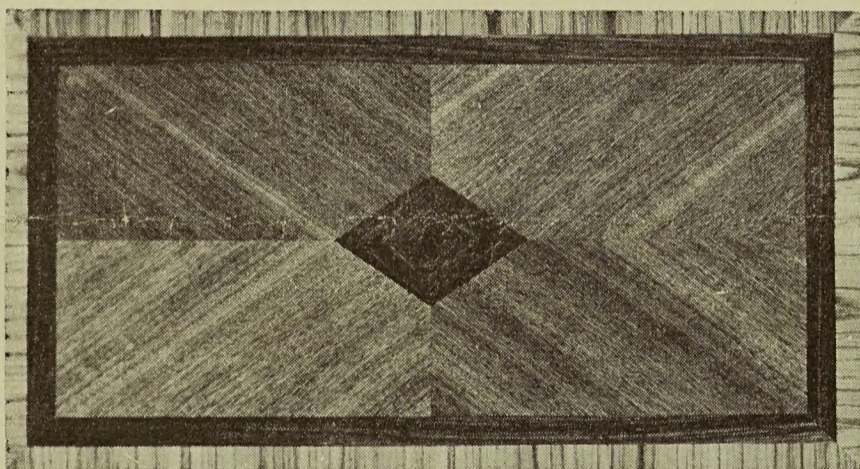

Fig. 13
3. Reverse diamond matching. (Fig. 13-field).
- (b) Grainy half-round Brazilian (Fig. 13 center).
22. Tulipwood (Fig. 13 Border).